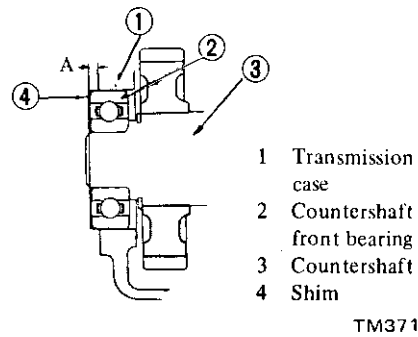

Fig. MT-44 Selecting countershaft front bearing shim
1. Select countershaft front bearing shim as follows: See Figure MT-44.